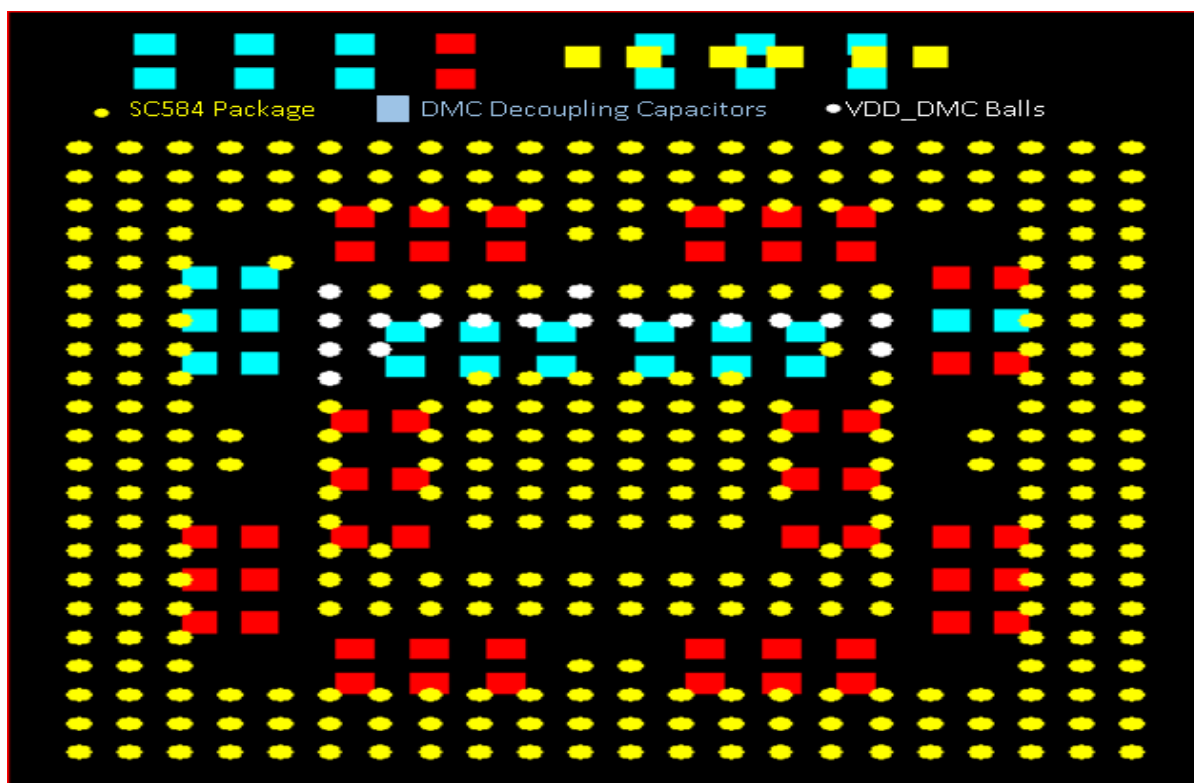

Figure 10. Sample VDD_DMC Decoupling Capacitor Placement for the ADSP-SC584 Device
- The decoupling capacitors for the VDD_DMC power rail should be placed as close as possible to the pin. This is very important, as DDR signal slew rates are really aggressive, so having these capacitors closer to the pin is a must (Figure 10).